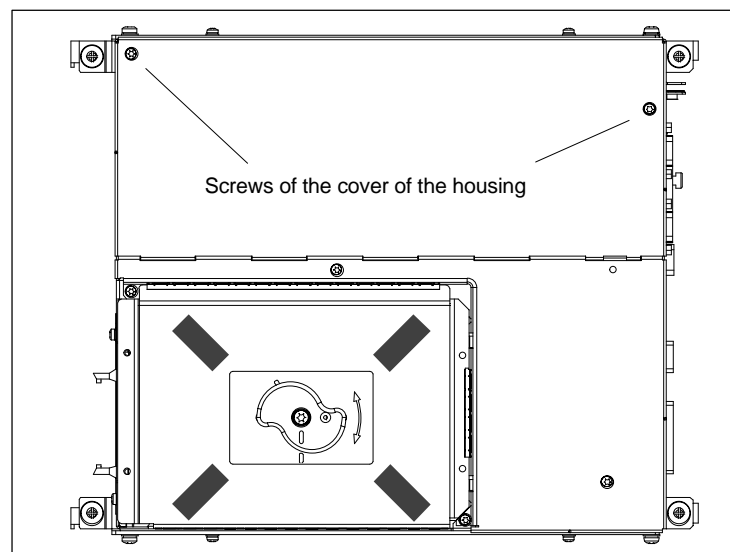

Fig. 2-7 Cover of the housing of the PCU 50
3. Remove the screws from the cover of the housing (Fig. 2-7) and open the housing of your PC, observing the relevant safety regulations.